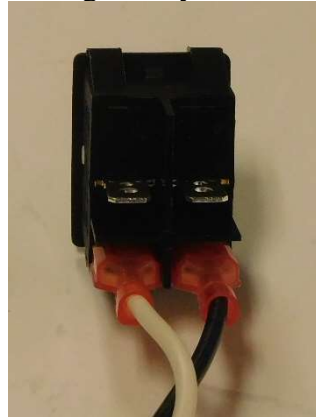

Figure 31-Installing power wires on the switch
9. Starting with the switch outside the chassis, push the FASTONS on the bottom switch terminals as indicated in Figure 31. The black or white wire may be on either side of the switch, so long as they both attach to the *bottom row* of contacts.